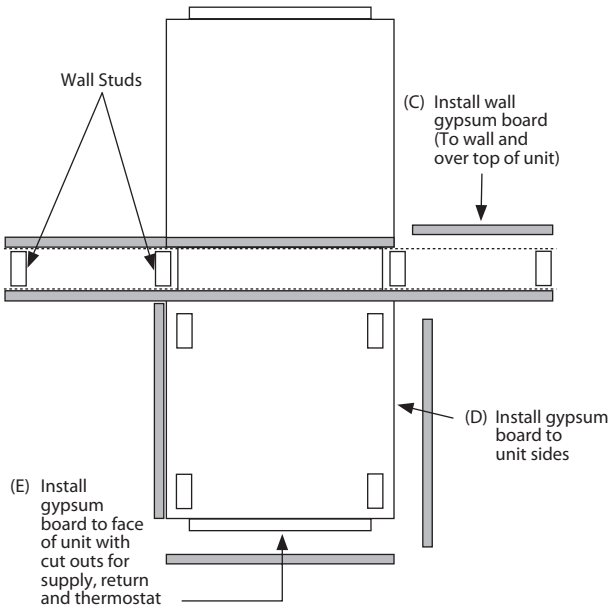

Figure 15 – On-Site Installation
Assemble the specified wall construction up to and over the top of the fan coil unit (C) (see Figure 15).
With the fire-wall separation being complete, the drywall skin on the surface of the individual fan coils can be applied. Drywall can be applied directly to the surface, or, if necessary, studding may be installed on the corners for vertical control (D) (see Figure 15).
For ease of installation of the access panel, apply drywall on the return air side directly to the surface of the unit (E) (see Figure 15). When applying the wall board directly to the unit cabinet, it may be necessary to shim the wall board in some areas to achieve the desired finished wall surface.